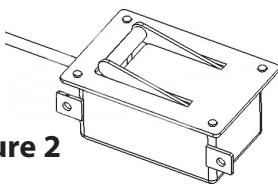

Figure 2
- A 1. Disassemble the Egress Box by removing the 4 screws shown and removing the face plate. (Figure 2).